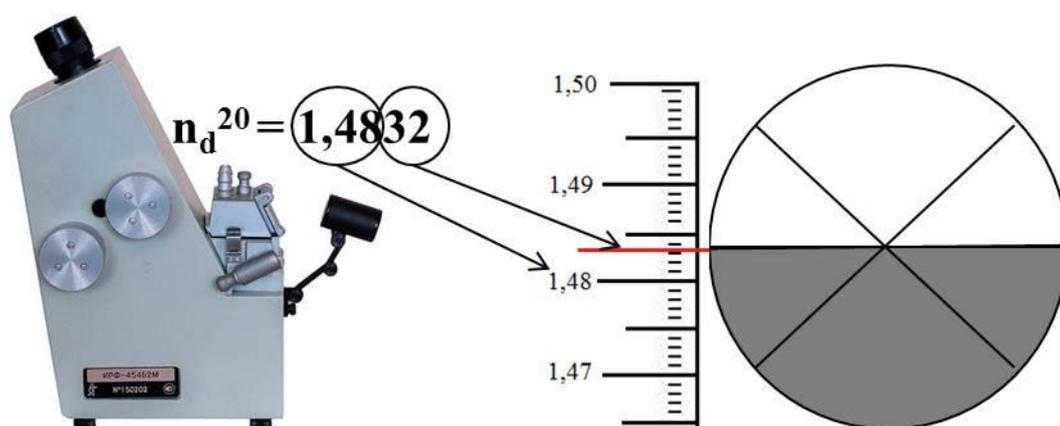

Fig. 2. Refractometer IRF-45452M
**C. How to use a refractometer: (Fig. 2)**